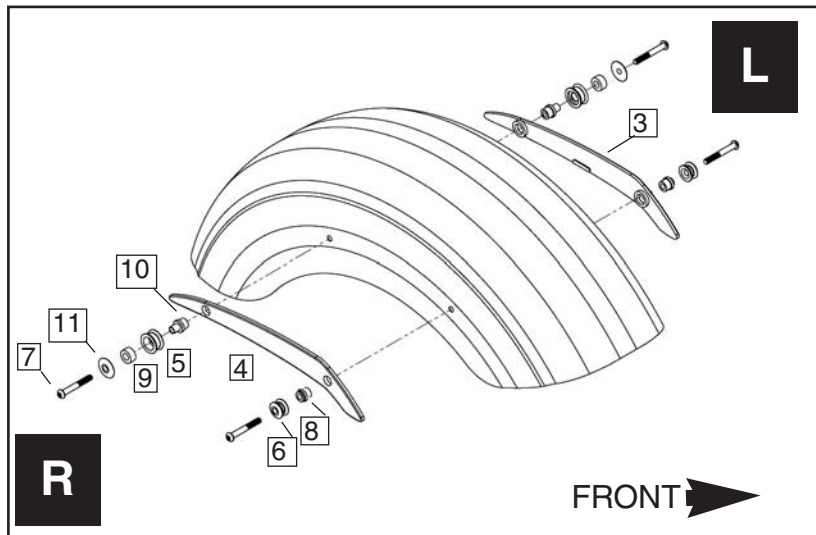

Figure 1
2. Assemble front and rear spool assemblies into the right eyebrow (4) and fender. Do not fully tighten. This will allow some movement which aids in the side plate installation. **(5mm Hex Wrench) Figure 1.**